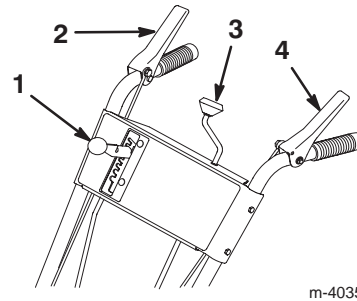

Figure 8
2. Move the speed selector (Fig. 8) on the control panel to the *R₂* (*Reverse*) position.